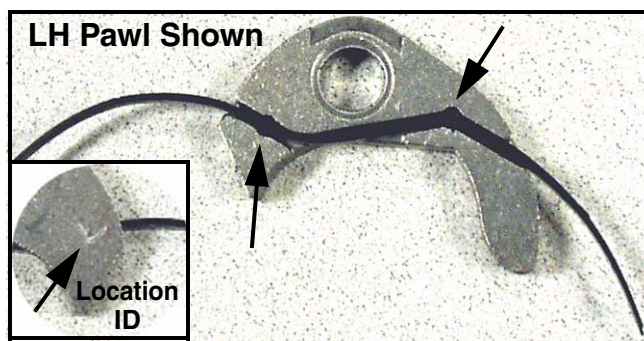

FIGURE 2
11. Install the new Plastic Springs (Item 3) into each of the new Pawls, Items 4 (RH) and 5 (LH). See Figure 2.